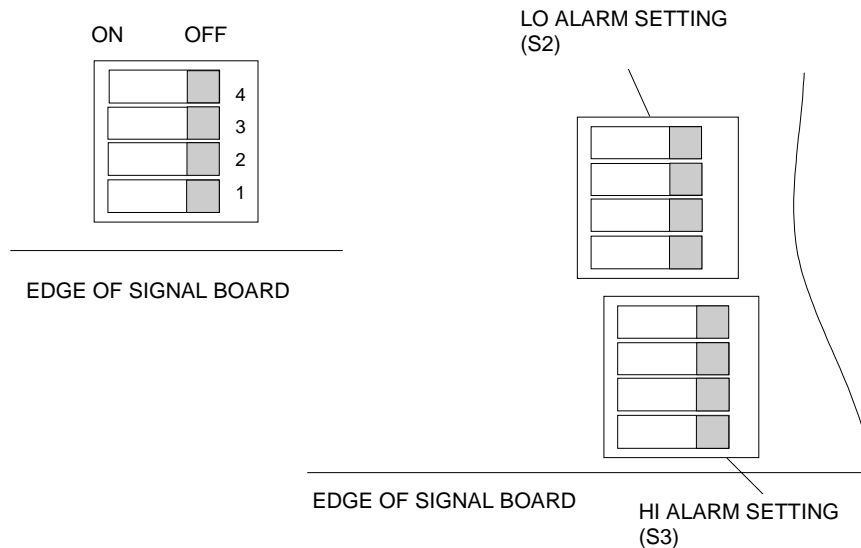

FIGURE 4-3. ALARM SWITCH LOCATION
5. To change the alarm setting refer to Figure 4-3 and Table 4-1 for desired configuration